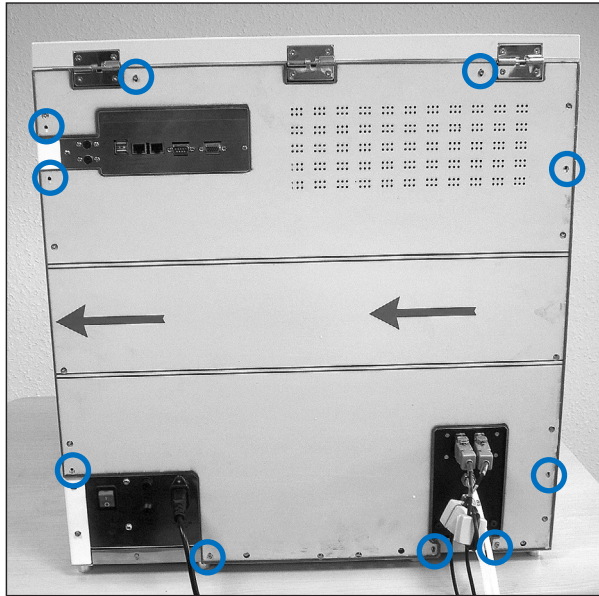

Figure 18: The back casing panel securing screws
- 2** Unscrew and save the ten (10) 2.5-millimeter hex socket screws with flat washers that secure the back casing panel (see Figure 18).
- 3** Unscrew and save the twelve (12) size T10 Torx screws that secure the front panel to the device chassis around the edges.